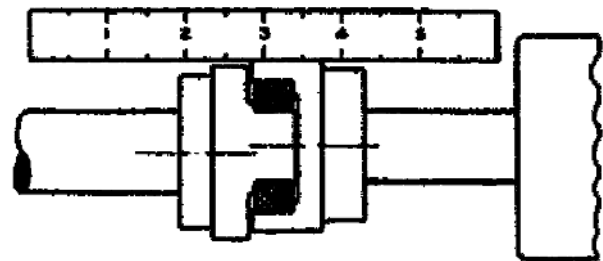

Figure 82. Checking parallel alignment.
(4) Check parallel alignment by laying a straightedge across both coupling rims at the top, bottom, and both sides, as shown figure 82. The unit will be in horizontal parallel alignment when the straightedge rests evenly on both halves of the coupling at each side. In some special services a wide differential will prevail between the operating temperatures the pump and motor. Adjustment of alignment to satisfy such operating conditions must be governed by the specific application. The vertical difference of the shafts should be measured with a straightedge and feelers. To establish parallel alignment, thin shim stock is placed under the motor base. Occasionally, shims may be required under the pump base.
(5) Remember, alignment in one direction may alter the alignment in another. Check through each alignment procedure after making an alignment alteration.